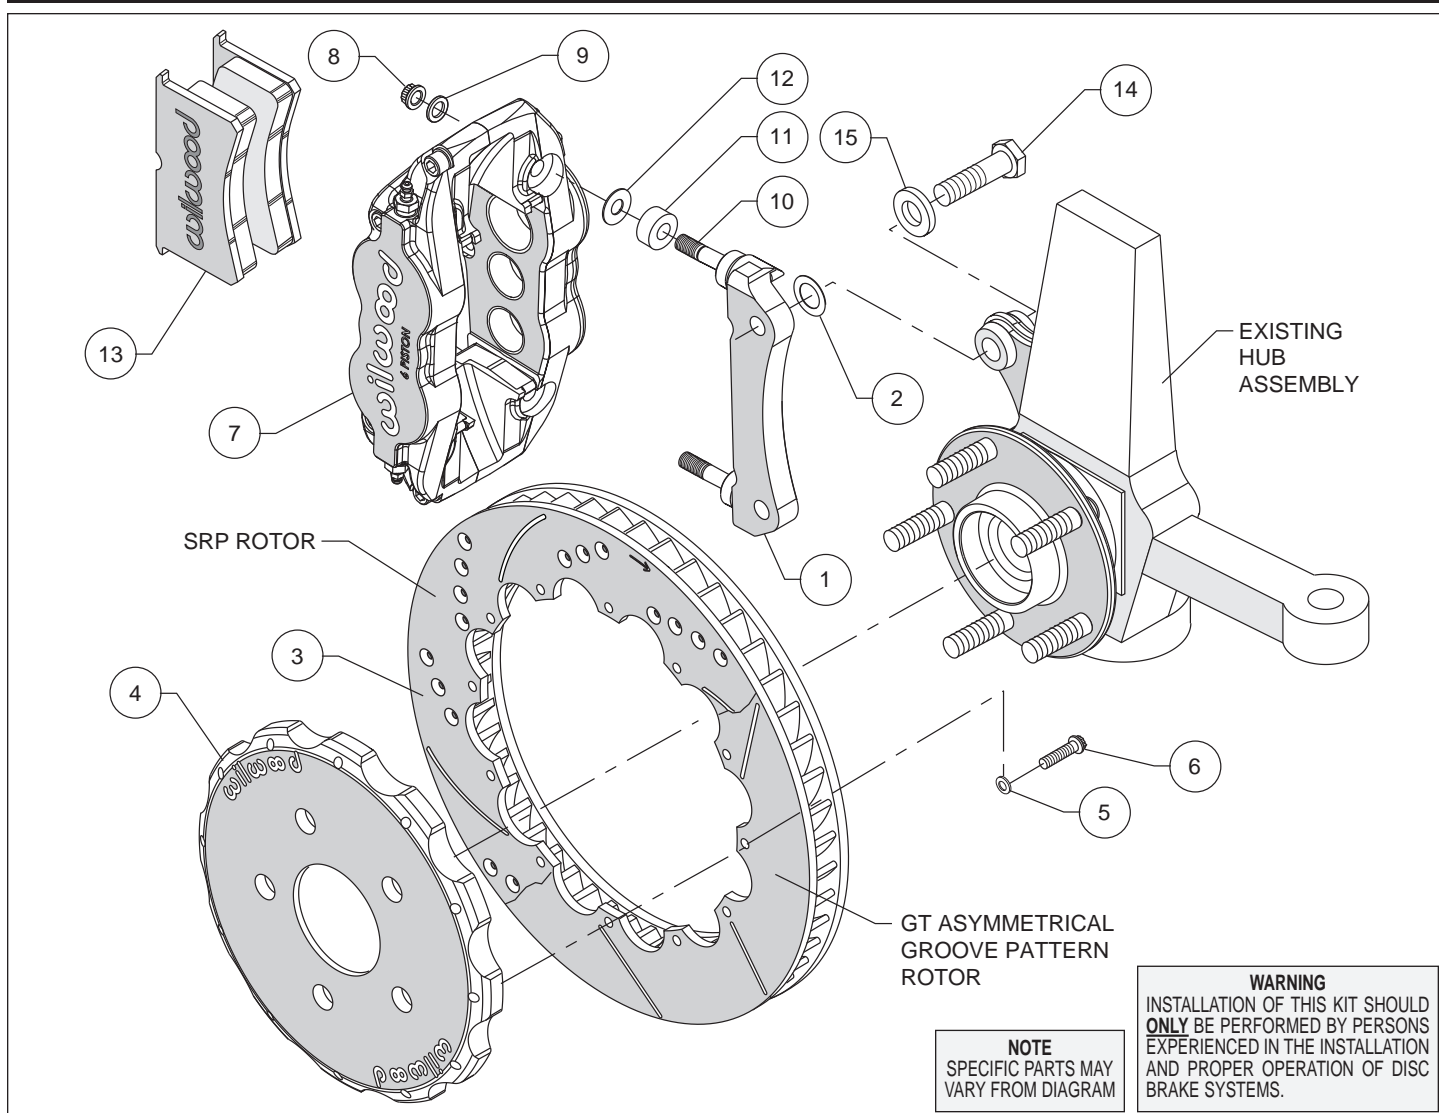
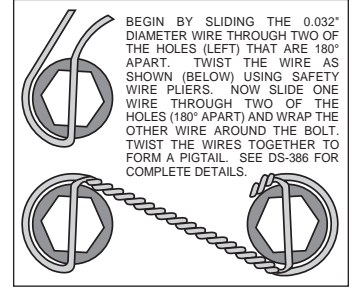

Figure 1. Typical Installation Configuration
Figure 3. Safety Wire Diagram
Assembly Instructions (numbers in parenthesis refer to the parts list and Figure 1 on the preceding pages):
- The caliper mount bracket (1) should initially be installed with clean, dry threads on the mounting bolts. Orient the bracket, as shown in Figure 1 and install using bolts (14) and washers (15). Initially place one .029" thick shim (2) on each bolt between the bracket and upright, Figure 1. Temporarily tighten the mounting bolts. **NOTE:** *The bracket must fit squarely against the mount bosses on the upright.* Inspect for interference from casting irregularities, machining ridges, burrs, etc. Later, after the caliper alignment has been checked, the mount bolts will be secured using red *Loctite*® 271.
- Orient the rotor (3) and the hat (4) as shown in Figure 1 and Photo 1. Attach rotor to hat using bolts (6) and washers (5). Using an alternating sequence, apply red *Loctite*® 271 to the threads, and torque to 155 **in-lbs**. For an added measure of security, the bolts may be safety wired using standard 0.032 inch diameter stainless steel safety wire as shown in Figure 3. Refer to Wilwood's data sheet DS-386 (available at www.wilwood.com/Pdf/DataSheets/ds386.pdf) for complete safety wire installation instructions.
- NOTE:** *This kit contains distinct right and left hand calipers that must be mounted in a specific direction, as described below.* Lubricate the caliper mounting studs (10) with lightweight oil. Initially place one .035" thick shim (12), and spacer (11) on each stud as shown in Figure 1 and Photo 2. Mount the caliper (7) onto the bracket (1) using lock nuts (8) and washers (9), Figure 1. Ensure that the caliper is mounted so that the largest pistons are at the rotor exit end of the caliper, in relation to the direction of rotor rotation. Temporarily tighten the lock nuts and view the rotor through the top opening of the caliper. The rotor should be centered in the caliper, Photo 3. If not, adjust by adding or subtracting shims (2) between the bracket and the upright. Always use the same amount of shims on each of the two mounting bolts. Once the caliper alignment is correct, remove the bracket mounting bolts (14) one at a time, apply red *Loctite*® 271 to the threads, and torque to 77 ft-lb.